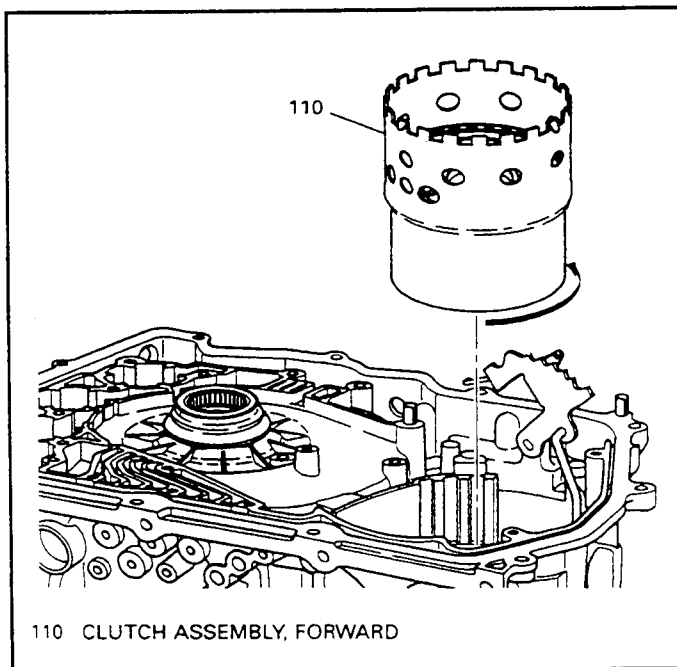

Figure 118
17. Install the forward clutch housing assembly in the transaxle case by rotating counterclockwise during assembly to seat the assembly into the lo roller clutch as shown in Figure 118.